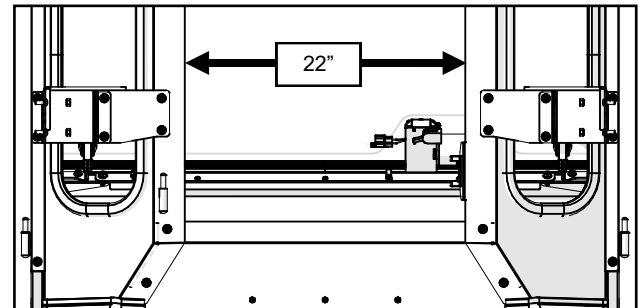

Fig. 14.1 (Measure Rear Legs Left to Right)
- 14.1** Measure the back of the rear legs, inside to inside, and adjust the width to 22". Measure corner to corner for squareness, and **tighten the (6) sets** of screws and nuts to lock in this width. See figure 14.1